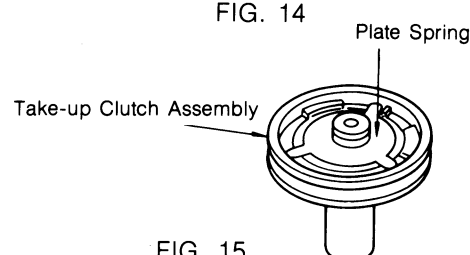

FIG. 15
- c) Change take-up clutch tension by turning the friction spring under reel table, as shown in Fig. 15, and/or